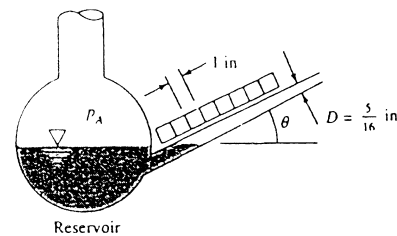

Fig. P2.37
**2.37** The inclined manometer in Fig. P2.37 contains Meriam red oil,  $SG = 0.827$ . Assume the reservoir is very large. If the inclined arm has graduations 1 inch apart, what should  $\theta$  be if each graduation represents 1 psf of the pressure  $p_A$ ?
**2.49** An inclined manometer, similar in concept to Fig. P2.37, has a vertical cylinder reservoir whose cross-sectional area is 35 times that of the tube. The fluid is ethylene glycol at 20°C. If  $\theta = 20^\circ$  and the fluid rises 25 cm above its zero-difference level, measured along the slanted tube, what is the actual pressure difference being measured?